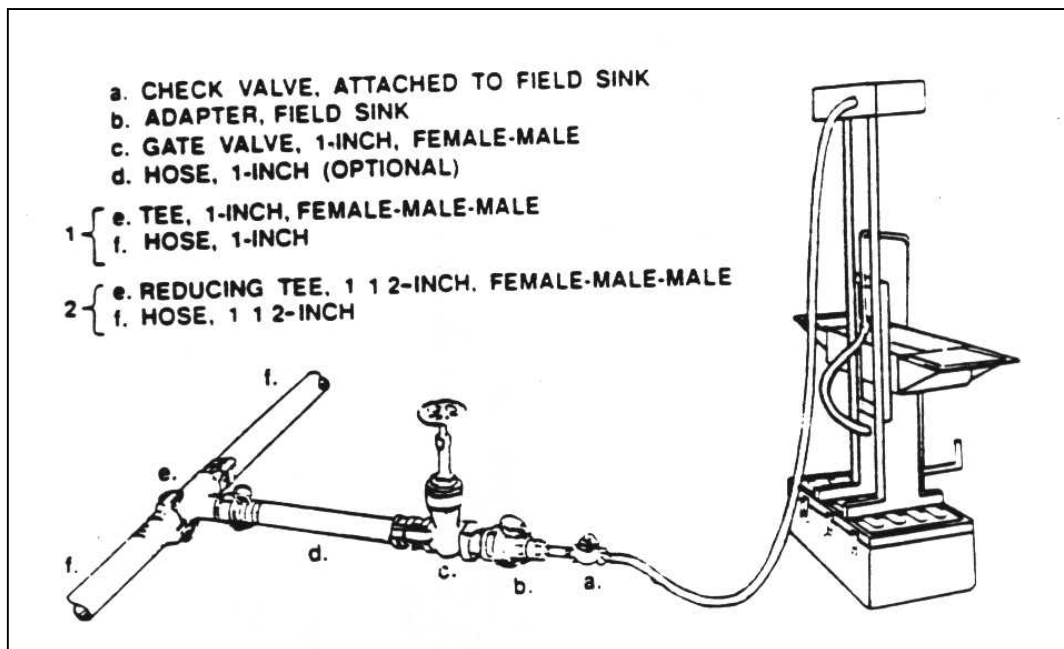

Figure 1-6
j. Lay the necessary fittings and hose to connect the field sinks. Figure 1-6 is a typical configuration. The hose (item d) is optional. You can omit it, or use any length hose you need. There are two possible connections to the field sink: